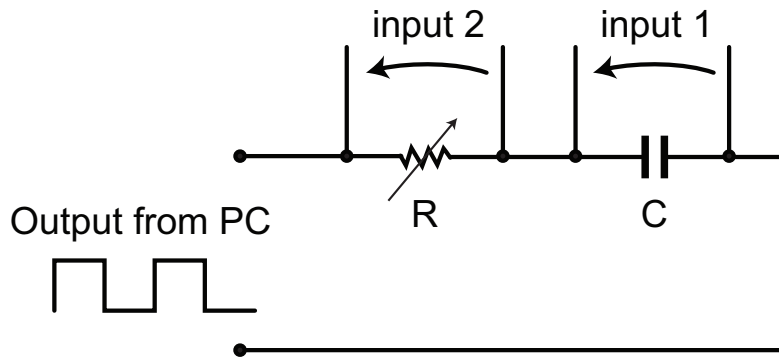

Figure 7: Scheme of the RC circuit.
- Now let's put all of this together. We will generate a square wave of variable frequency and amplitude keeping its baseline at 0 V. We will input this excitation into a series combination of a variable resistor R and capacitor C . We will measure both of these voltages in real time and see if we observe the desired characteristics of these components. This printed circuit has been constructed for its ease of use and should be available in the kits we've provided. The circuit diagram is shown in Fig. 7.